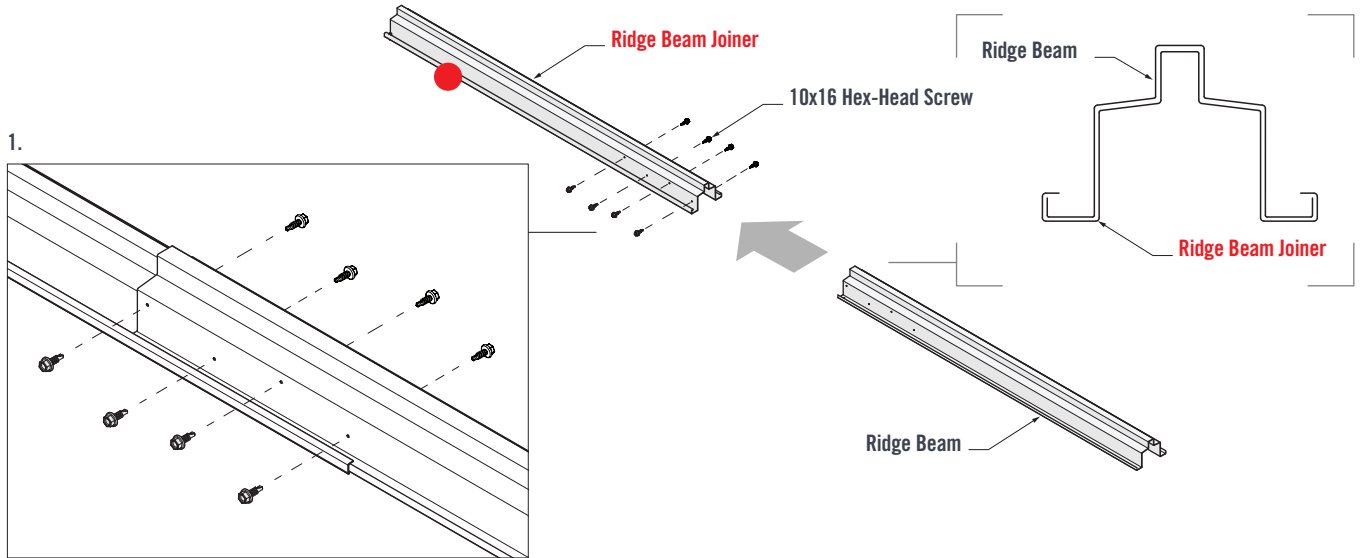

FIGURE 2.1
With the ends that have pre-punched holes facing each other, slide the Ridge Beam into the Ridge Beam Joiner (Figure 2.1).
1. Align the pilot holes of the Ridge Beam and Ridge Beam Joiner. Fasten four 10x16 Hex-Head Screws through the Ridge Beam Joiner and into the Ridge Beam on both sides (Figure 2.1).